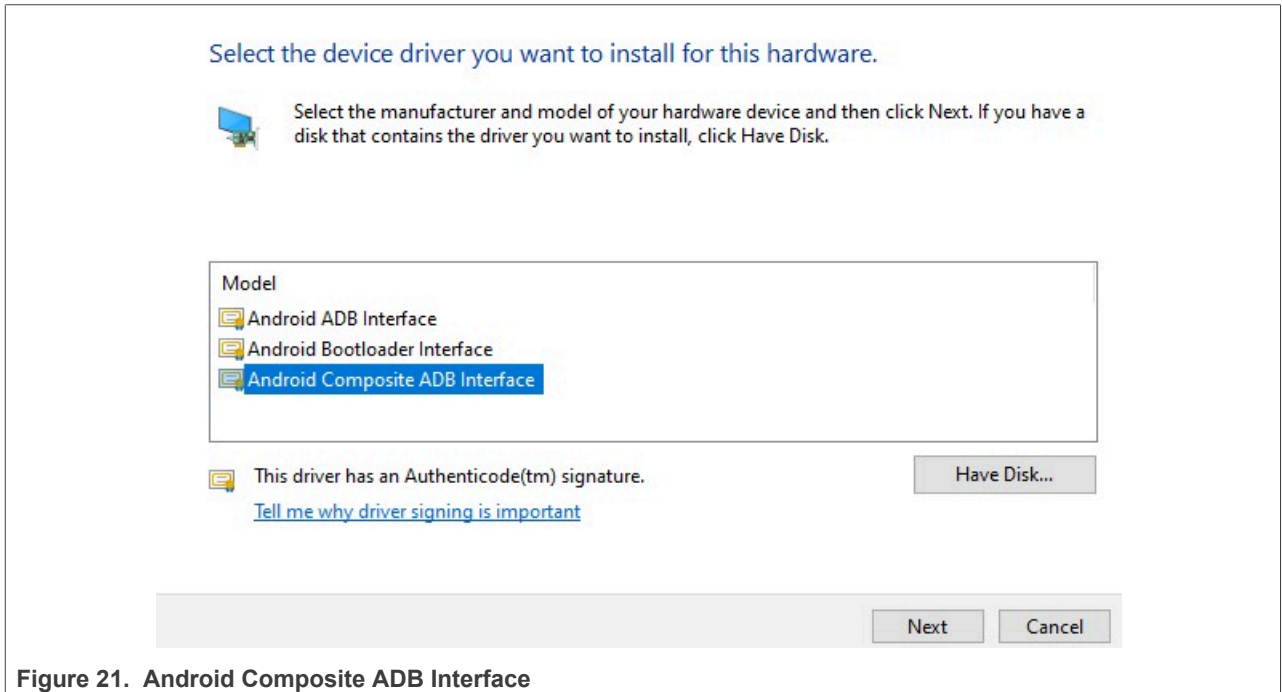

Figure 21. Android Composite ADB Interface
5. Select "Android Composite ADB Interface" (see Figure 21).